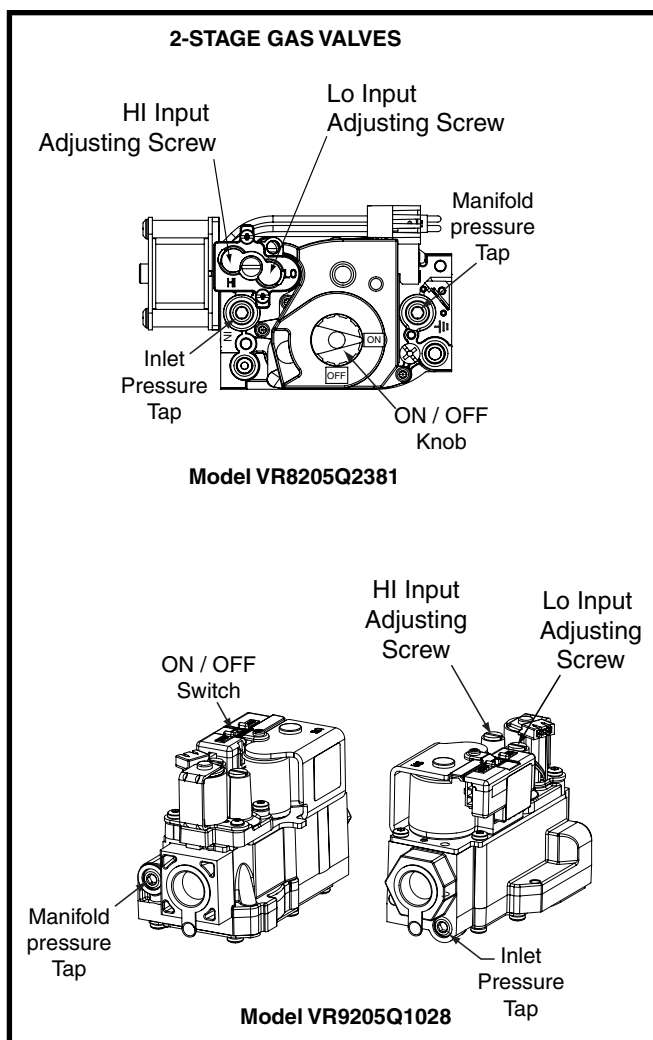

Figure 27. HI & LO Input Adjusting Screws
- c. Using an Allen wrench, turn the the LO Input Adjusting Screw on the LO side of the regulator to adjust the reduced input setting or turn the HI Input Adjusting Screw on the side of the regulator to adjust the full input setting. See Figure 27 \(page 29\). **NOTE:** Turning the adjusting screw clockwise increases the pressure and counterclockwise reduces the pressure.